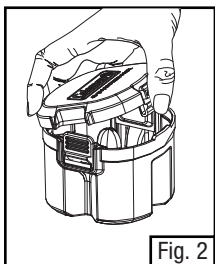

Fig. 2
2. Press snap feature to open the 4D battery pack top cover. (Fig. 2)